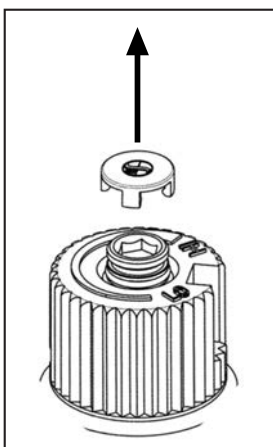

Figure 16: Removing valve cap.
- a) Remove the black protection cap from the HI/LO knob by hand shown in Figure 16.
- g) Re-attach the black protection cap that was removed in step a (Figure 16).